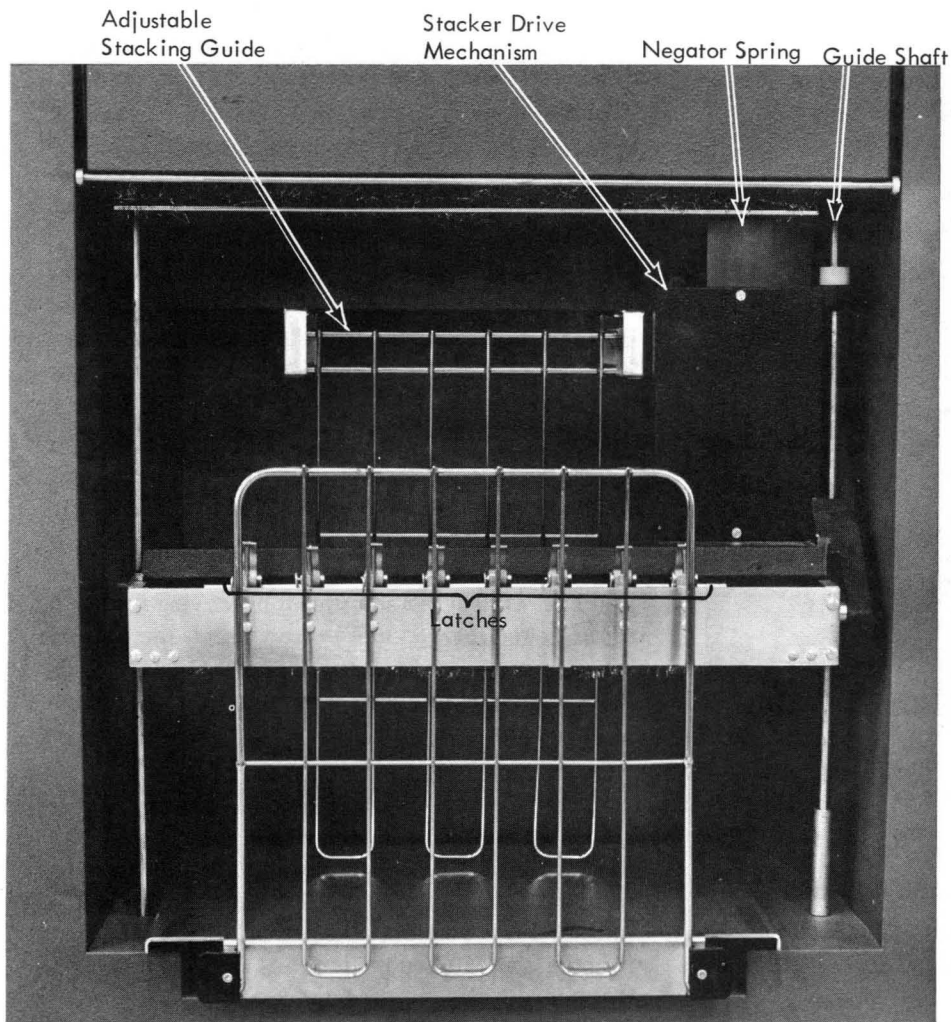

Figure 4-3. Forms Stacker and Guide
7. Remove the screw and lockwasher from the bottom of the right-hand guide shaft (Figure 4-3). Remove the shaft by pulling it up until it is clear of the machine. At this time, the tubular stacker stop (through which the shaft passes) can fall out. The left-hand shaft does not pass through the stacker casting but is held snugly by a small bracket on the front of the stacker casting. It can be convenient to loosen or remove this bracket at this time. The stacker can now be lifted clear of the machine.